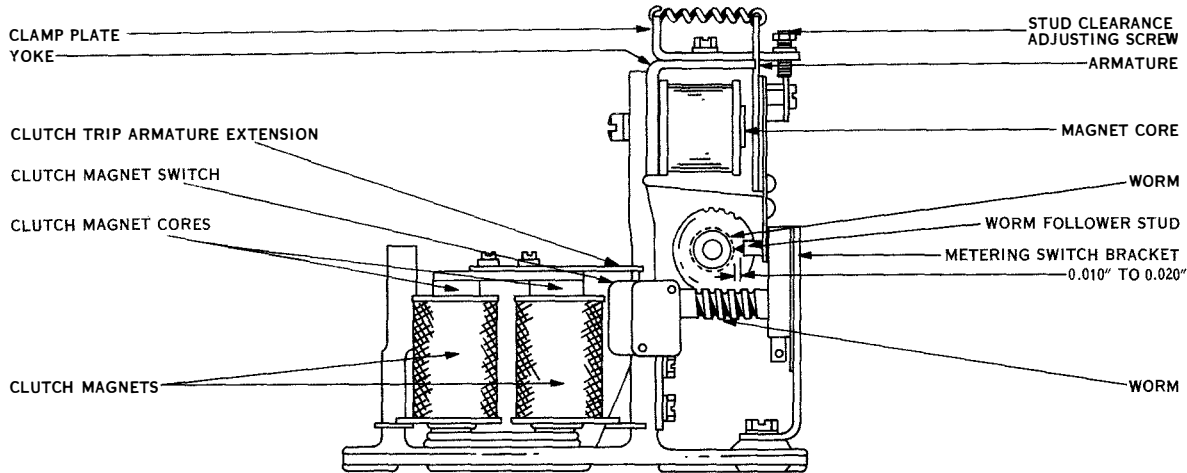

Figure 7-71. Clutch Magnet Switch and Metering Worm Follower Stud
(94) **CLUTCH MAGNET SWITCH.** (See figure 7-71.)—The clutch magnet switch should be positioned to operate (close contacts) with a minimum overtravel of 0.015 inch when the armature is pulled against the magnet cores. When the clutch is disengaged and the magnets de-energized, the switch should be open. To adjust, position the switch mounting bracket.
(96) **METERING WORM FOLLOWER STUD.** (See figure 7-71.)—When the magnet is de-energized, there should be a gap of 0.010 to 0.020 inch between the outside diameter of the tip on the follower stud, along the entire length of the worm. To adjust, loosen the mounting screw in the clamp plate and hold the armature flat against the yoke and magnet core. Slide the